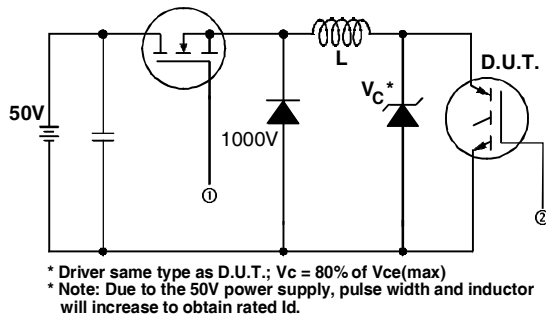

Fig. 13a - Clamped Inductive Load Test Circuit
- ② $V_{CC} = 80\%(V_{CES})$, $V_{GE} = 20V$, $L = 10\mu H$, $R_G = 50\Omega$, (See Fig. 13a)
- ③ Repetitive rating; pulse width limited by maximum junction temperature.
- ④ Pulse width $\leq 80\mu s$; duty factor $\leq 0.1\%$.
- ⑤ Pulse width $5.0\mu s$, single shot.